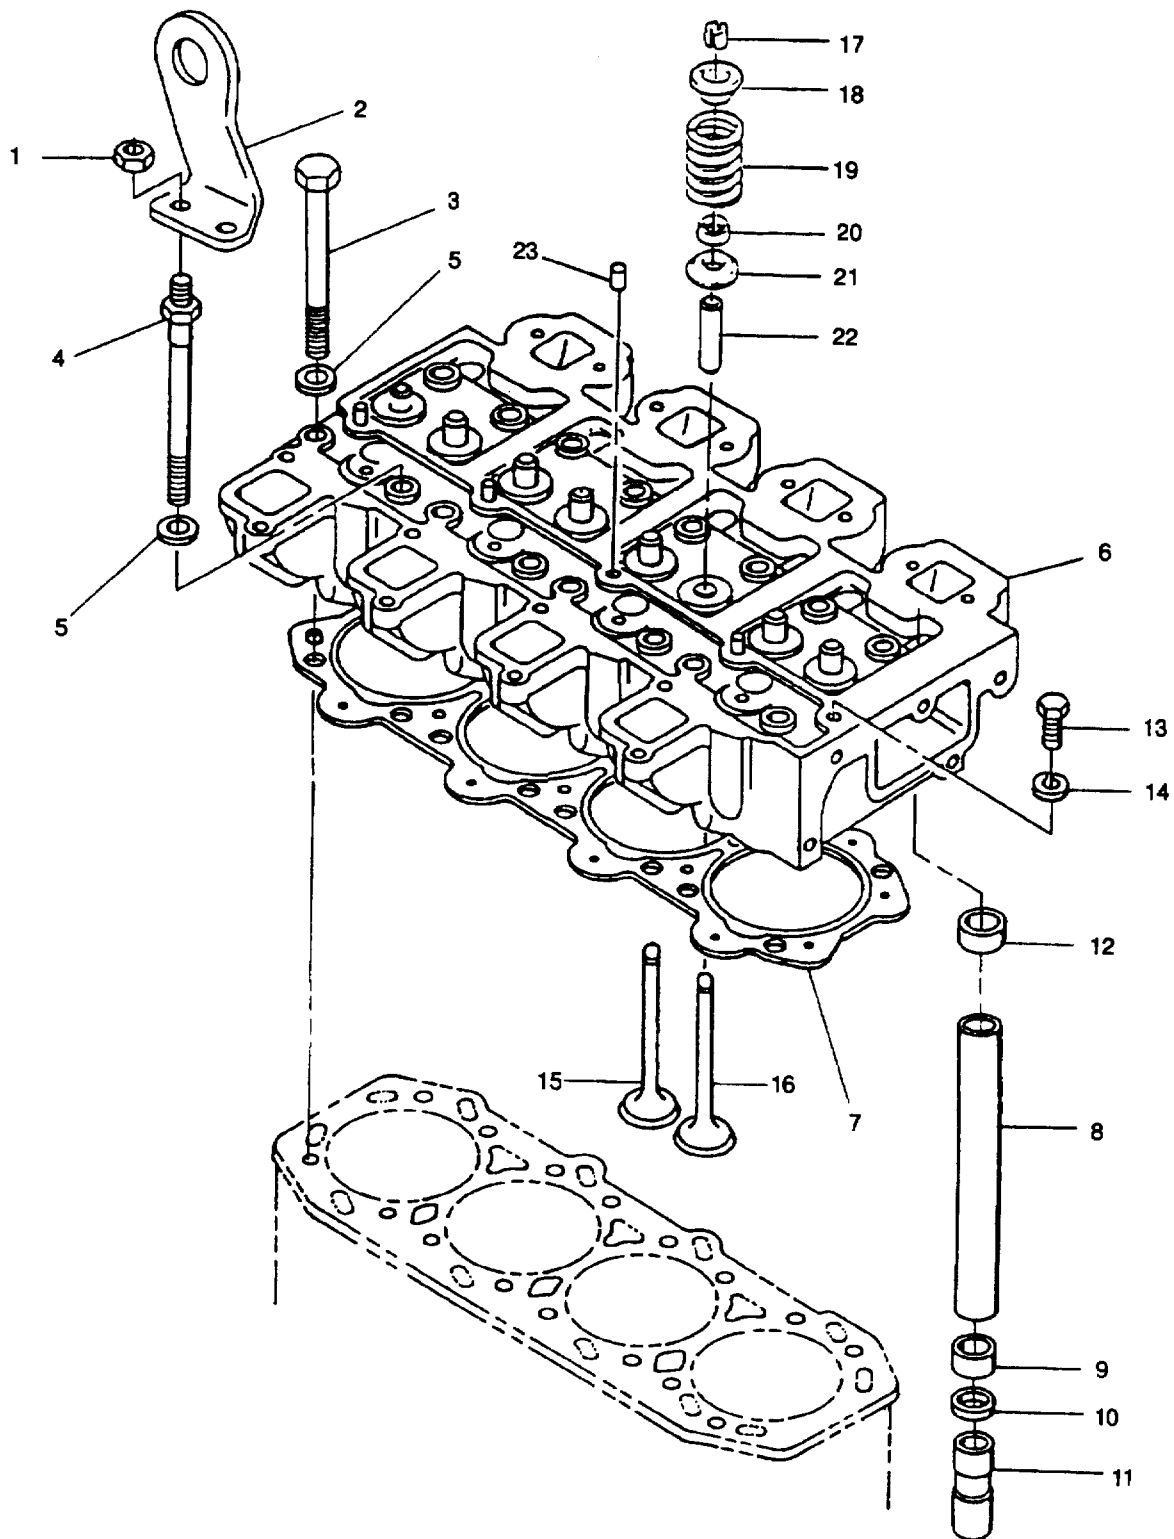

FIGURE 3-28. Cylinder Head Assembly
- e. Remove four nuts (1, FIGURE 3-28) securing lifting eyes (2); remove lifting eyes (2).
- i. Lift off cylinder head (6, FIGURE 3-28) and gasket (7). Discard gasket.
- a. Remove pushrod tubes (8, FIGURE 3-28), seals (9), washers (10) and tappets (11) from crankcase.
- b. Remove seals (12) from cylinder head (6). Discard seals (12).
- c. If necessary, remove capscrew (13) and washer (14).
- (1) Push down on tool until collets (17) can be removed.
- (2) Gently release tool. Remove carrier (18), spring (19), seal (20), and plate (21). Discard seal.
- (3) Turn cylinder head (6) over and remove valve (15 or 16).
- a. Using standard valve spring compressor tool install each valve (15 or 16, FIGURE 3-28) as follows:
- (1) Lightly lubricate valve stem with engine lubricating oil (MIL-L-2104) and insert valve (15 or 16).
- (2) Lay head (6), upright on bench and place a block of wood under head of valve being replaced.
- (3) Place valve spring plate (21) in position.
- (4) Install a new valve stem seal (20) to valve guide (22) taking care to ensure it is correctly located over valve guide and is not distorted.
- (5) Install valve spring (19) and spring carrier (18).
- (6) Push down on tool until collets (17) can be installed in position with their tops slightly sunk in valve spring carrier (18).
- (7) Gently release tool and check that collets (17) are correctly located.
- b. If removed, install capscrew (13), washer (14), and breather tubes (23).
- a. Ensure cylinder head (6, FIGURE 3-28) and crankcase mating surfaces are clean and dry.
- b. Install hydraulic tappets (11) (solid end first) and new washers (10) in crankcase.
**Seal (12) has a lip on one side and seal (9) has no lip.**
- c. Install new pushrod seal (12) in cylinder head (6) and new pushrod seal (9) in crankcase.